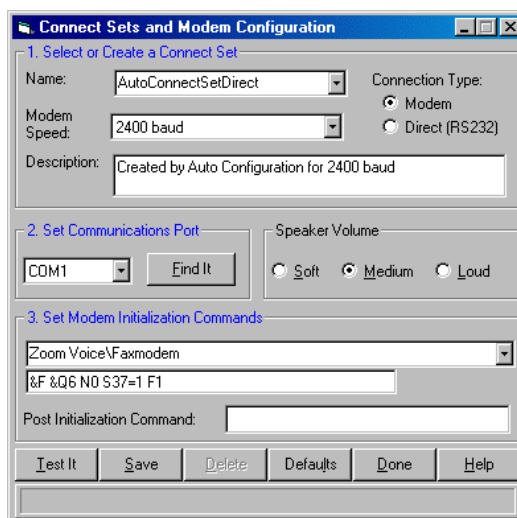

Figure 7: Custom Configure and Create Connect Set Window
- 1 Key in the desired name for the Connect Set – in the **NAME** field as in Figure 7.